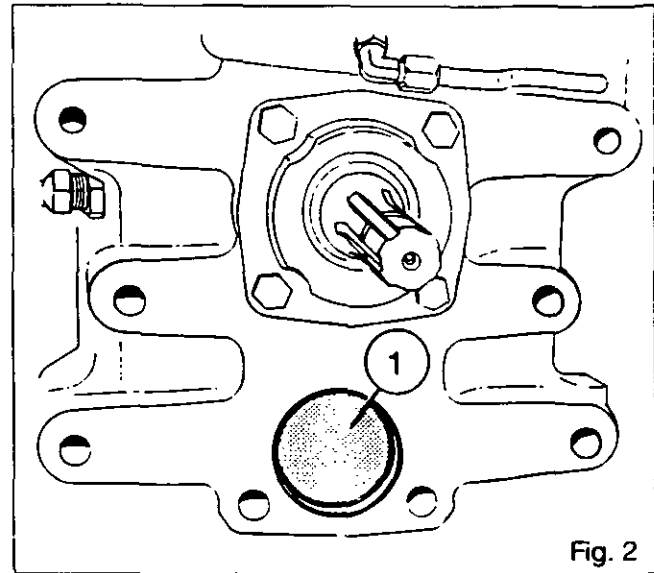

Fig. 2
5. Extract the rear plug (1)(Fig.2).
8. Remove bolts (11) and cover (12).